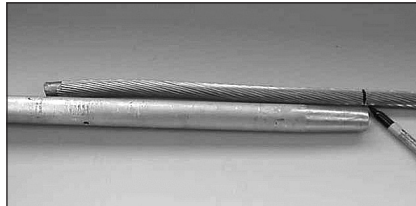

FIGURE 1: Mark the conductor and clean $\frac{3}{4}$ the length of the aluminum body.
1. Mark the conductor a distance of $\frac{3}{4}$ the length of the aluminum body (**Figure 1**).